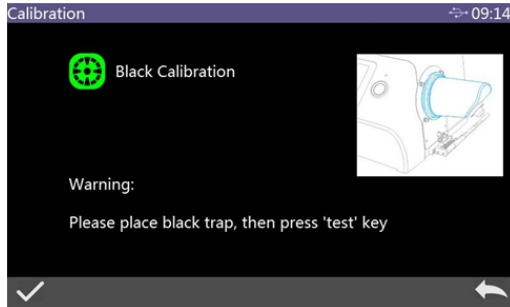

Figure 5 Reflective Black Calibration Interface
3. Click  to enter Reflective Black Calibration interface as shown in Figure 5. Place well black cavity according to the warning, then press the test key to start black calibration, or click  to cancel and quit the calibration.